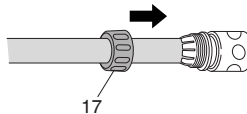

Fig. 17
2. Remove the ring (17) from the coupler, slide the ring over the hose and insert the hose to the coupler. (Fig. 17)